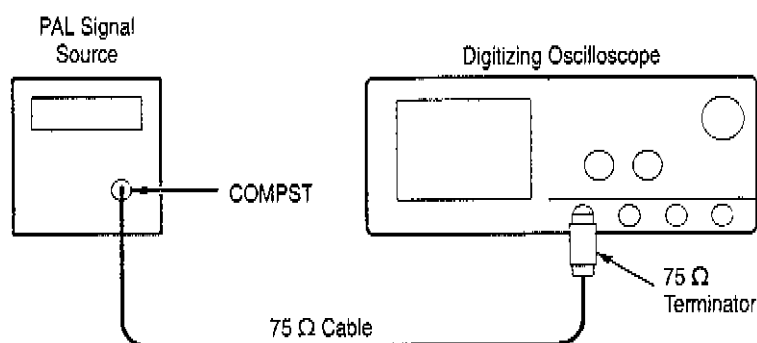

Figure 1-25: Jitter Test Hookup
- a. Setup equipment for Jitter Test. See Figure 1-25.